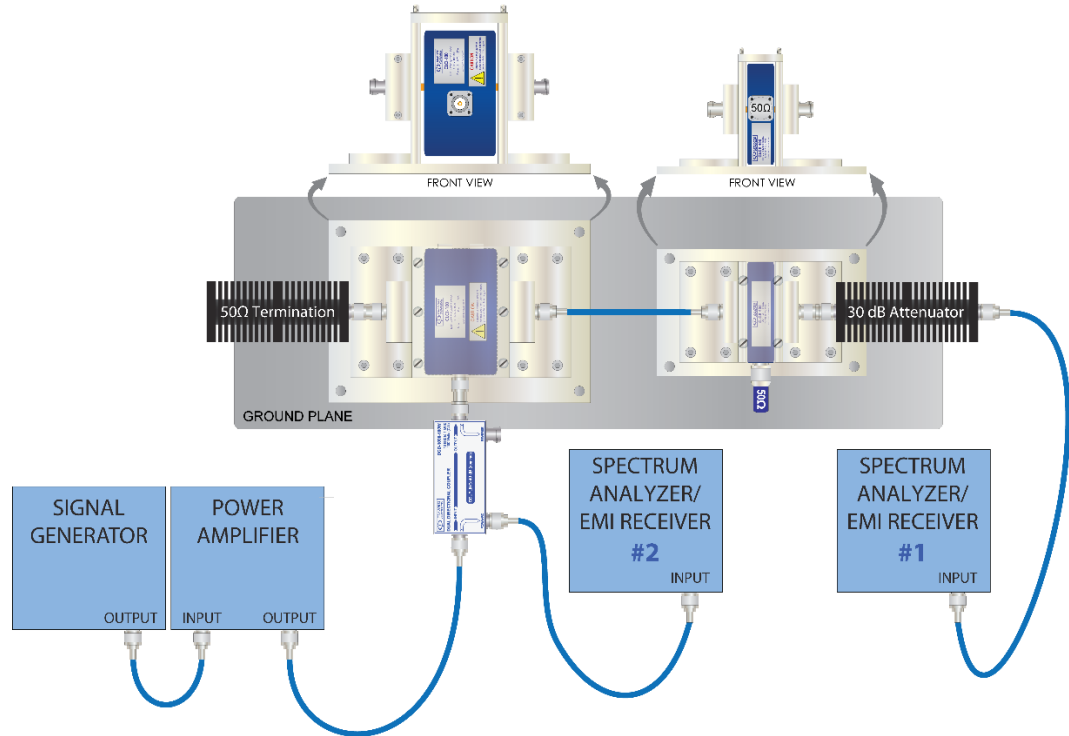

Figure 14 –Example Test Setup Diagram for Calibration of Test Levels
- 1) Set up the equipment as described in the applicable standard or approved test plan. An example setup diagram is given in Figure 14.